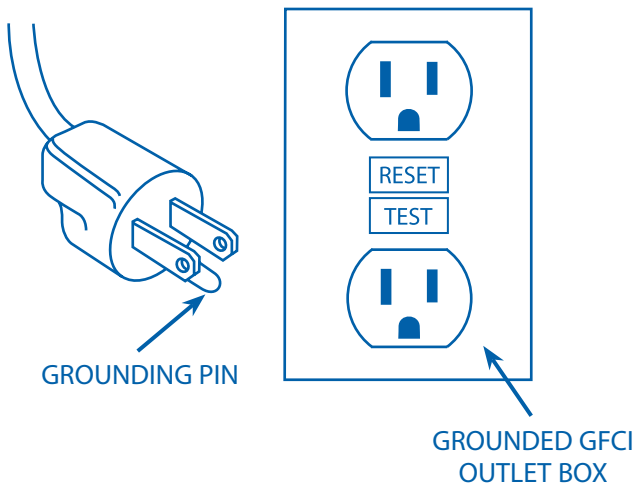

Figure 2
This machine is intended for use on a circuit that has an outlet like the one shown in Figure 2. It also has a grounding pin like the one shown.
6. Connect a 3-wire extension cord (3-prong) into a grounded (3-prong) 110 volt AC outlet (see Figure 2).